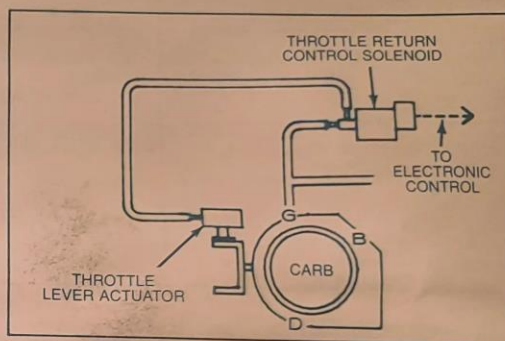

Figure 7-1. TRC System Vacuum Schematic (6-cylinder shown)
- The solenoid (Fig. 7-1) opens and directs vacuum to the throttle lever actuator. The actuator extends a plunger that will limit the return of the throttle lever in deceleration.